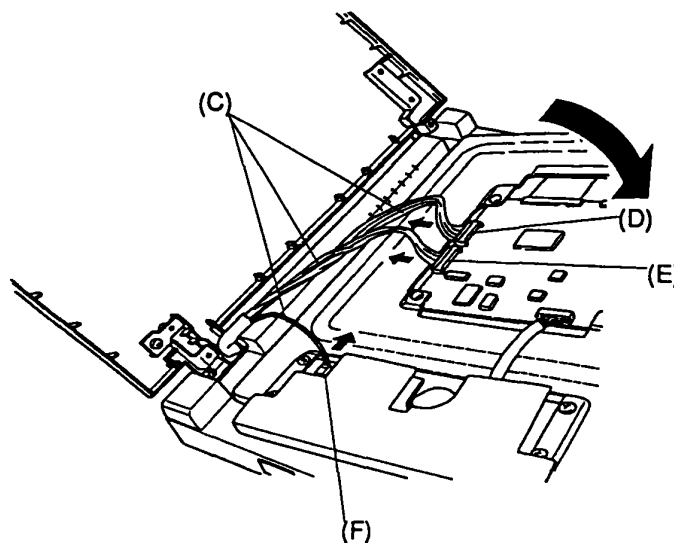

Figure 4-29 Disconnecting the display cables from the display panel
4. Lay the plasma display panel on the keyboard and disconnect the three display cables (C) from J1A (D), J1B (E) and J21 (F) on the plasma display (Figure 4-29).
8. Lay the plasma display face down on the keyboard and connect the three display cables to the plasma display (Figure 4-29).